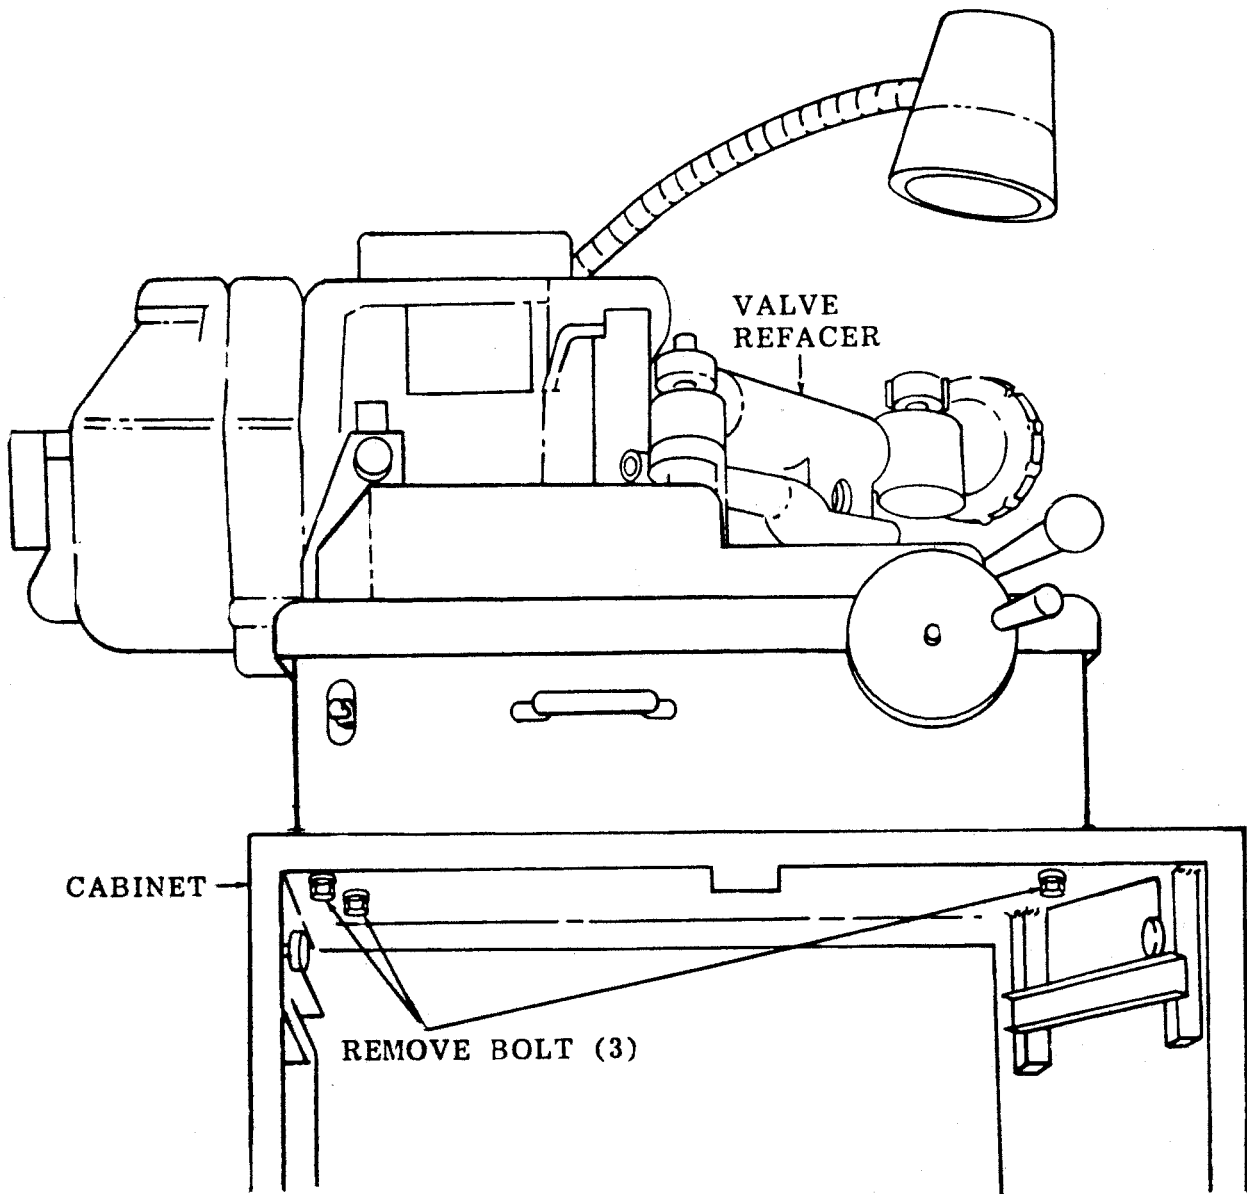

Figure 15-6. Valve Refacer, Removal and Installation.
- a. Removal. Remove valve refacer as illustrated in figure 15-6.
- b. Installation. Install the valve refacer as illustrated in figure 15-6.